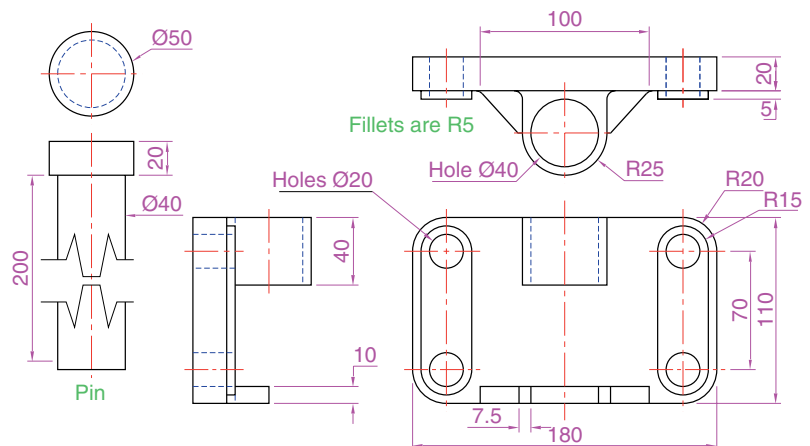

Fig. 19.18 First example 3D models – details of sizes and shapes
1. ***FRONT*** plane. Construct the three extrusions for the back panel and the two extruding panels to the details given in Fig. 19.18.